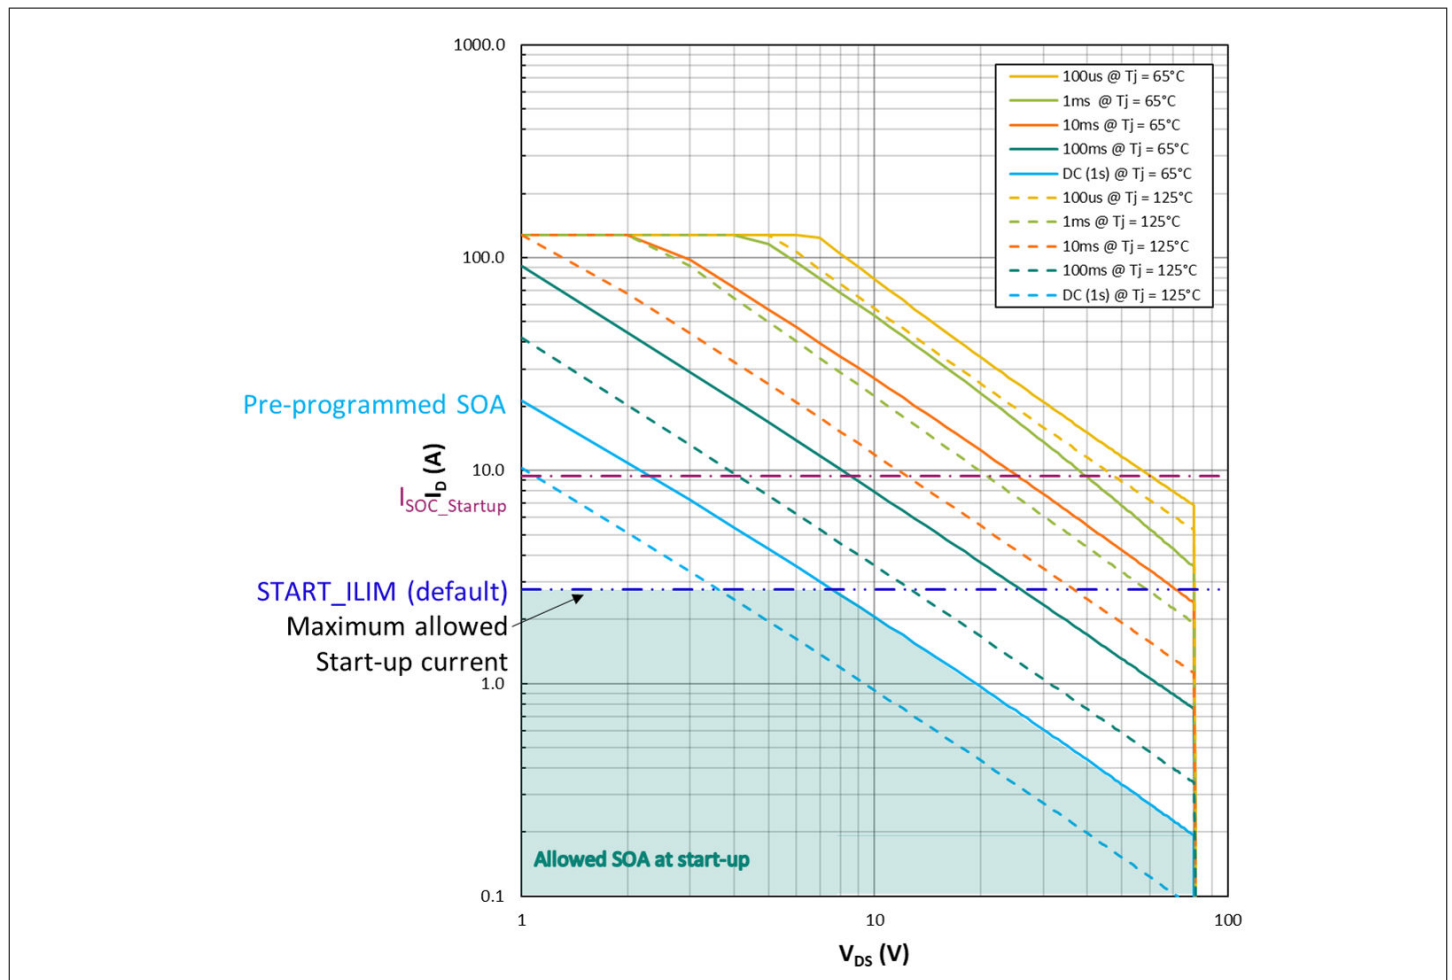

Figure 9 MOSFET's SOA chart during start-up
The control loop limits of a device are configured according to three different limits as shown in Figure 9.
The Figure 9 shows the MOSFET's SOA with the default control loop limits.
- The device starts charging the output capacitor by regulating the MOSFET. As shown in Figure 9, the control loop allows an $I_{SOA} = 0.25\text{ A}$ at 54 V .